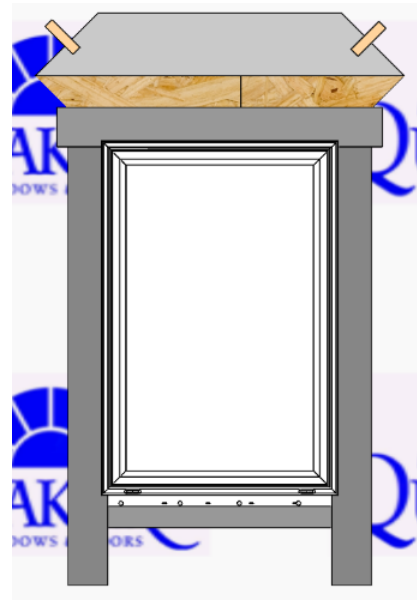

Fig. 12
- B. Cut a piece of flashing tape for the head flashing, which extends beyond outer edges of jamb flashings. Remove release paper and install completely covering mounting flange and adhering to exposed sheathing or framing members. (Fig. 12)